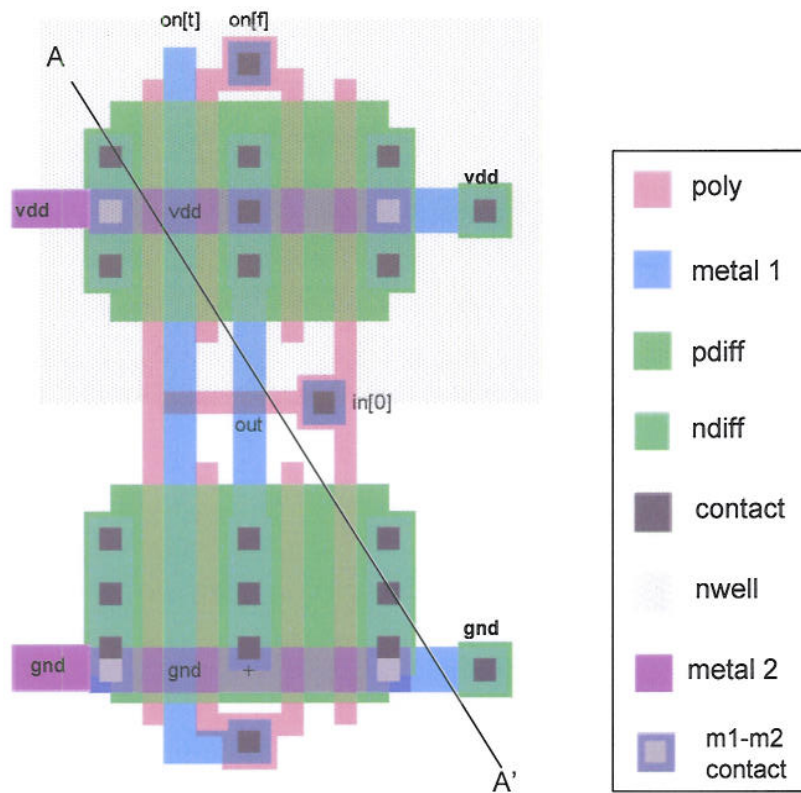

Figure 1.1 Layout of full-custom cell P for Question 1
1. a) *Figure 1.1* (see the colour supplementary sheet) shows the layout of an n-well CMOS circuit *P* with four terminals: *in[0]*, *on[t]*, *on[f]* and *out*. Extract and draw the transistor-level schematic diagram of this circuit. Note that *vdd* and *gnd* are routed on the metal 2 layer.
- d) For the layout shown in *Figure 1.1*, draw the vertical cross section along the line AA'. Label your diagram indicating the n-well region and the different types and levels of doping (e.g. p^+ , n^+ etc).